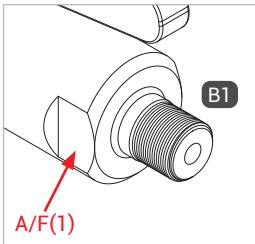

Figure 1
- ▶ When mounting media line, hold an open-ended wrench against the wrench size AF(1) (Figure 1).
- ▶ Screw the 'B1' media inlet pressure-tight to the port for the media line (Figure 1).